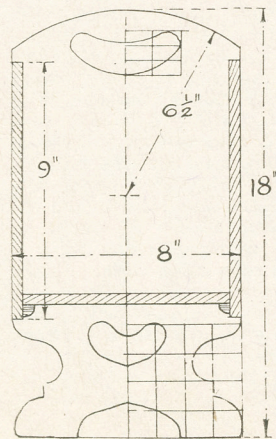
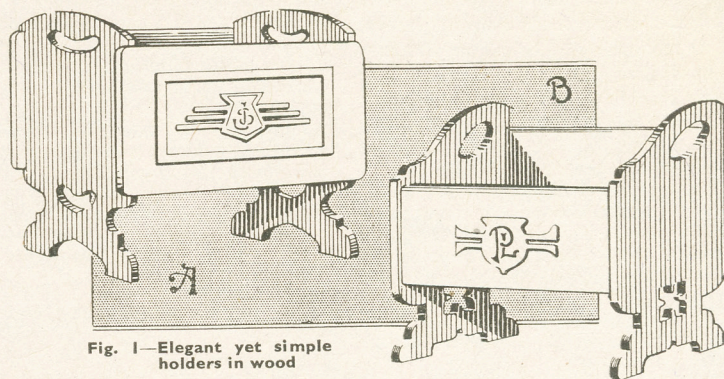
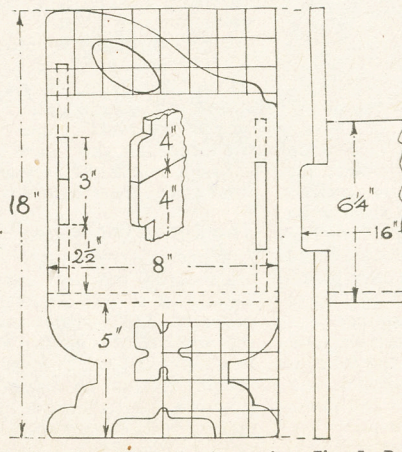

Fig. 2 — End view with dimensions
Fig. 1—Elegant yet simple holders in wood
Fig. 4 — Squared alternative shape
The illustrations in Fig. 1 give a good idea of the stands, and we will first describe that shown as (A). The two ends are of $\frac{1}{2}$ in. wood, and their outline can be drawn from the detail, Fig. 2. A plain oblong of wood is first cut measuring 18ins. by 8ins., and a centre line should first be drawn down its centre as shown.
The sides of the stand (see Fig. 2) are recessed into the upright edges of the ends. The sides are shown shaded in the diagram, and are let in $\frac{3}{8}$ in.—the full thickness and the width of the sides.
The second Stand (B, in Fig. 1), is very much like the foregoing and therefore needs but very little explanation. The overall size of this stand is the same but the feet are of slightly different outline as is the tops of the ends. Two boards 18ins. by 8ins. will again be cut, and a number of 1in. squares lined in in two places as shown in Fig. 4.
The same method is adopted for the shaping and interior frets as previously explained. The back of this stand is higher than the front and is best made therefore in two widths of boards glued together. Two boards, each 16ins. long and 4ins. wide, are glued, jointed and tenoned. Then cut one at each end 1in. wide, as the inset detail shows in Fig. 4.
Care must be taken to set out the mortises correctly 3ins. long and $\frac{3}{8}$ in. wide for both the back and front panels as shown. Set out the position of the floor on each finished end of the stand before these mortises are drawn in; see measurements in Fig. 4.